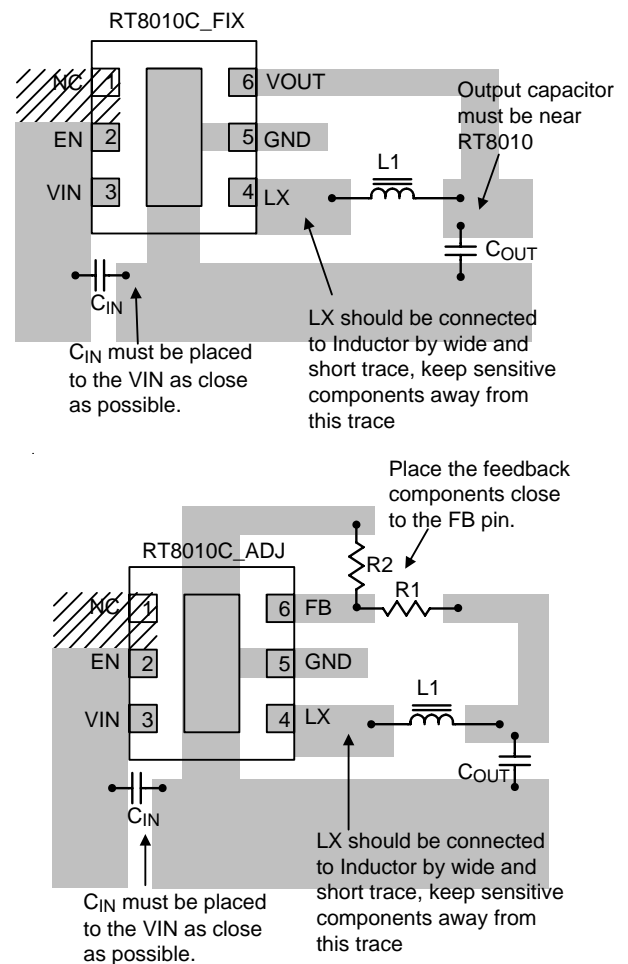

Figure 6. PCB Layout Guide
- ▶ An example of 2-layer PCB layout is shown in Figure 6 for reference.